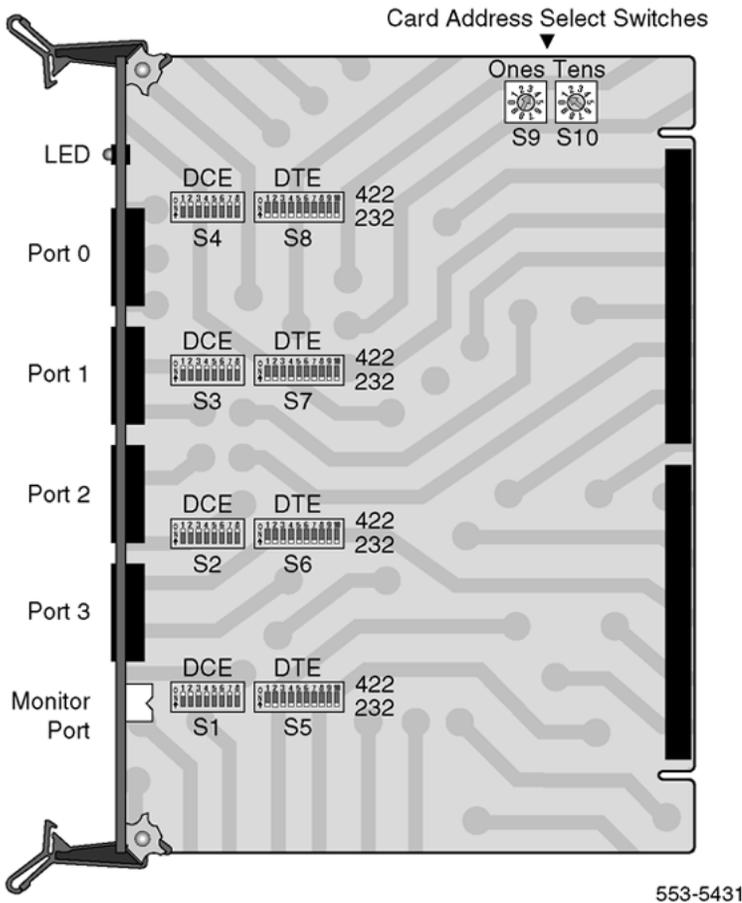

Figure 46: MSDL card layout
Installation procedures for the MSDL card are the same for Large Systems. Use Install the MSDL card on page 125 below. See Figure 46: MSDL card layout on page 126, and Table 27: MSDL switch settings on page 126 for the port and interface switch settings.
2. Set the MSDL switch settings to correspond to Table 27: MSDL switch settings on page 126, and Figure 46: MSDL card layout on page 126.
5. Set the MSDL switch settings to correspond to Table 27: MSDL switch settings on page 126 and Figure 46: MSDL card layout on page 126.